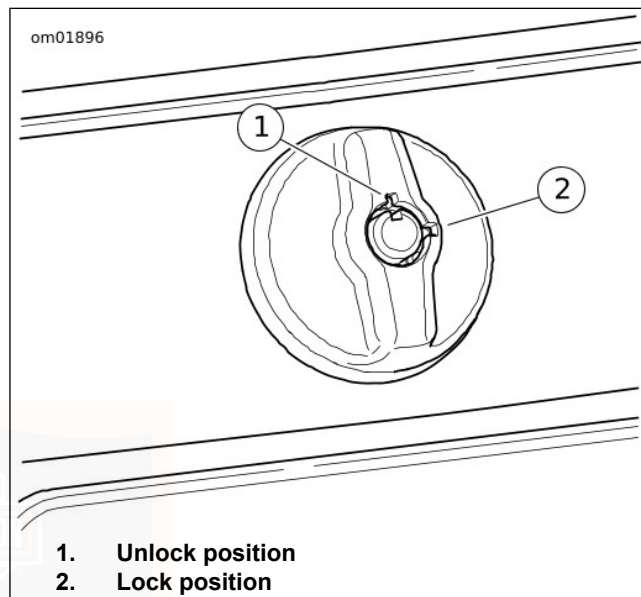

Figure 48. Trunk Lock
1. See Figure 48. To unlock trunk, insert key into barrel lock and turn one-quarter turn counterclockwise. Remove key.